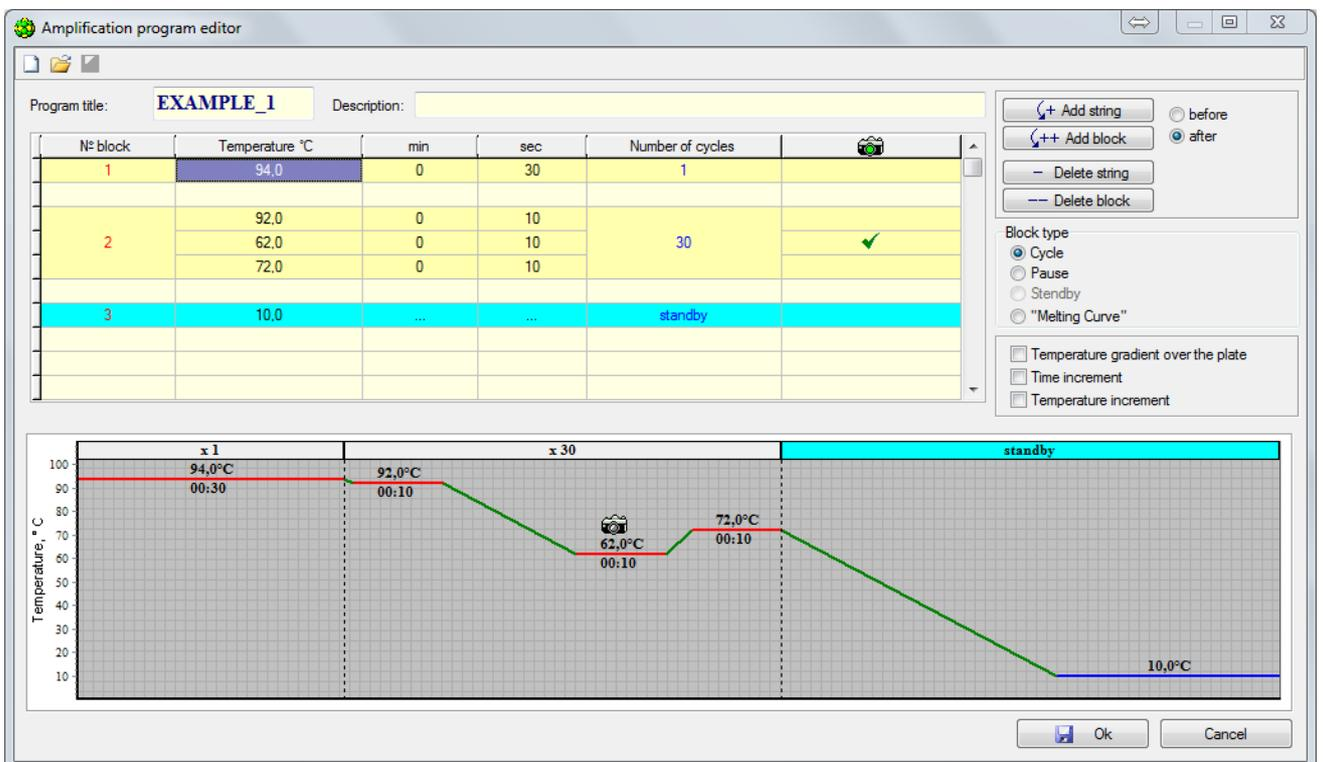

Fig.26. Edit of existing amplification program
3. Edit the existing amplification program by clicking  (Fig. 26).